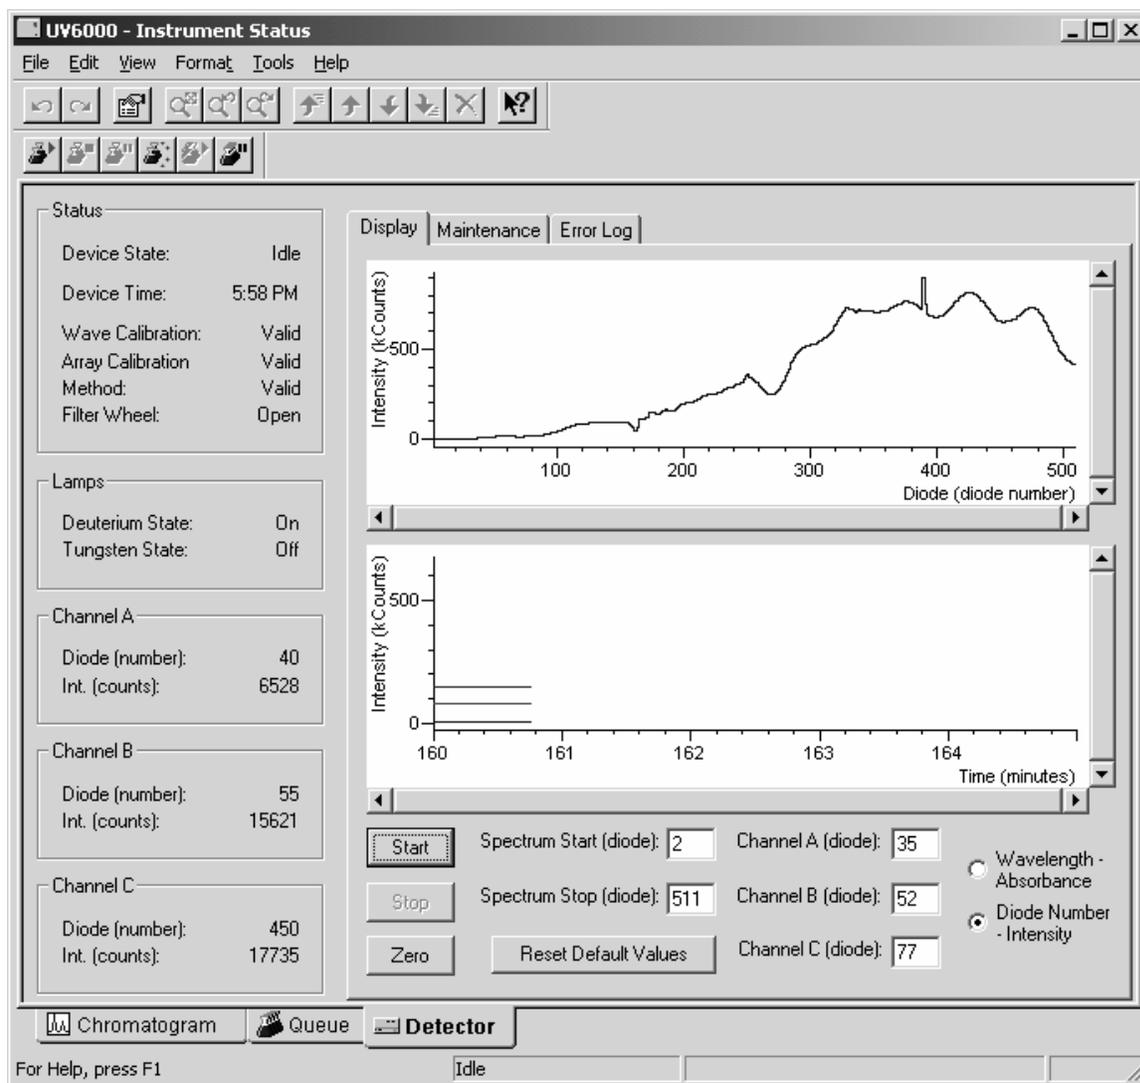

Figure 4.6 UV6000 Instrument Status – Display page (Atlas 2003, R1)
6. Click on the Display tab to open the Display page. See Figure 4.6. (This tab is labeled *Operation* in Atlas version 2003 R2.)